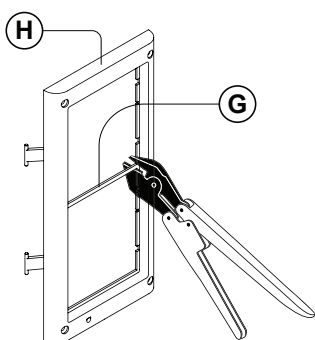
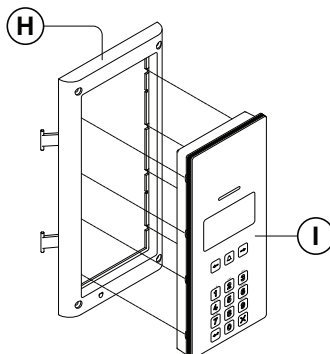
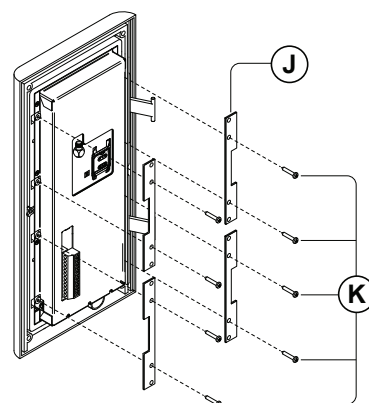

Fig. 50
Fig. 51
Fig. 52
3. Remove the cross bar **(G)** from the module support frame **(H)** using the appropriate hand tool (where required it may be necessary to wear the appropriate clothing, e.g. protective gloves and eye protection, when doing this) as shown in **Fig.50**;
4. Before installation of the module support frame **(H)** to the surface box **(C)** , fit the module **(I)** to the support frame **(H)** as shown in **Fig. 51** then, as shown in **Fig.52**, fit the module fixing brackets **(J)** using the fixing screws **(K)** ;
4. Follow steps 3 and 4, from 'installing a surface mounting door station', to fit the module into the module support frame (H) as shown in **Fig.50, Fig.51** and **Fig.52** on page 24 and described on page 25;